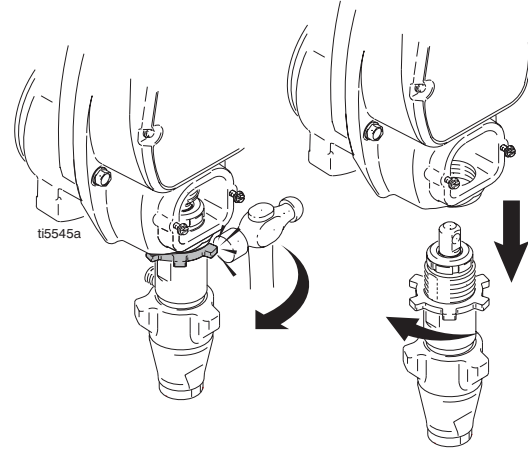

FIG. 17
6. FIG. 17. Loosen jam nut by hitting firmly with a hammer. Unscrew pump.